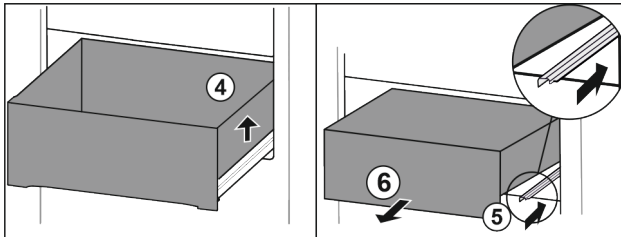

Fig. 128
- Lift drawer on the right. Fig. 128 (4)
- Insert right rail. Fig. 128 (5)
- Remove drawer to the front. Fig. 128 (6)